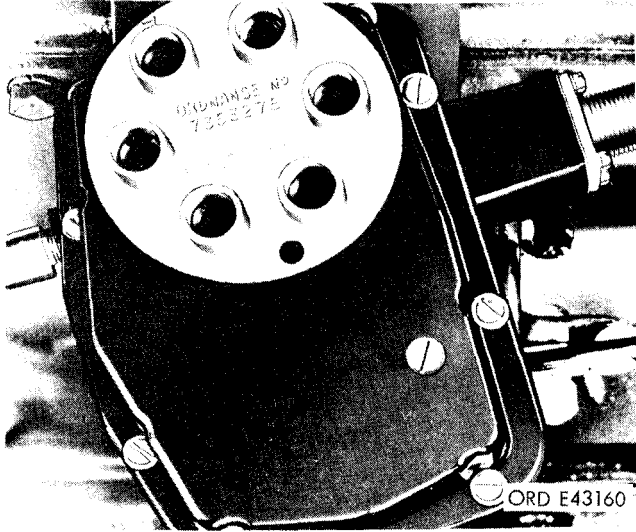

Figure 2-146. Distributor assembly with cover attached.
(4) Install a new mounting gasket on top of the distributor drive housing (9), and position the distributor and coil assembly (4) on the housing, engaging the coupling at the lower end of the distributor shaft with the coupling on the upper end of the drive shaft inside the housing.
(5) Position the two distributor mounting clamps (8) on top of the drive housing, and secure them with the two capscrews (1) and lockwashers.
(6) Adjust the breaker point gap ( $d$ ) (1) below).
(7) Install the rotor on the breaker cam, position the distributor cover on the housing being sure that the cover gasket is in place, and secure the assembly with eight screws and lockwashers (fig. 2-146).
(8) Position the distributor primary wire (3) at
(9) Position the distributor vent line (6) at the elbow on the front of the distributor, and tighten the nut (5).
(10) Insert the ends of the spark plug cables in the cable sockets (corresponding to spark plug numbers in the distributor cover) (fig. 2-146), and tighten the connectors.
(11) Check the ignition timing, and correct it if necessary (para 2-120).